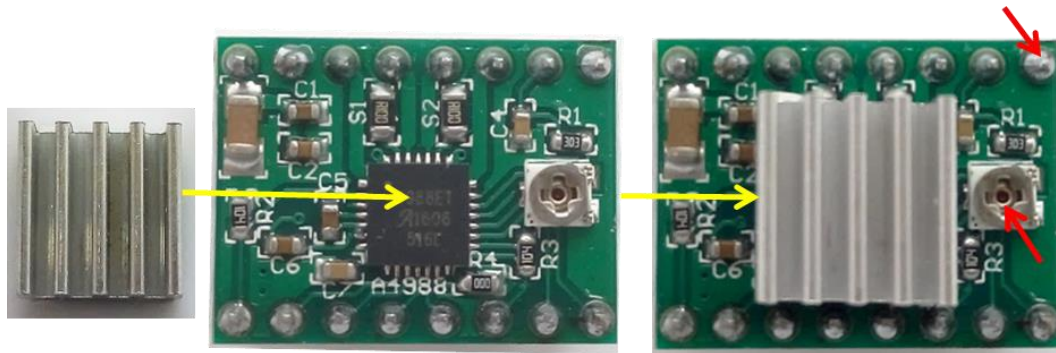

Fig. 27
Step 2. There are 5 pieces of A4988 (B11) in the package. Prepare 4 pieces (the rest is for backup) of A4988 with Al cooling fin, as Figure 27 shows. Make sure the Al fin does not touch the pin on A4988 to avoid any short passing.
*A method to calculate the drive current of A4988: use a multimeter to test the voltage between the two points on A4988, which is pointed out by two red arrows as shown in Fig. 27; then the current (I) can be calculated by the equation of $I=U/0.8$. Normally the voltage ranges from 0.75 to 1V, so the current should be in the range of 0.94~1.25A.